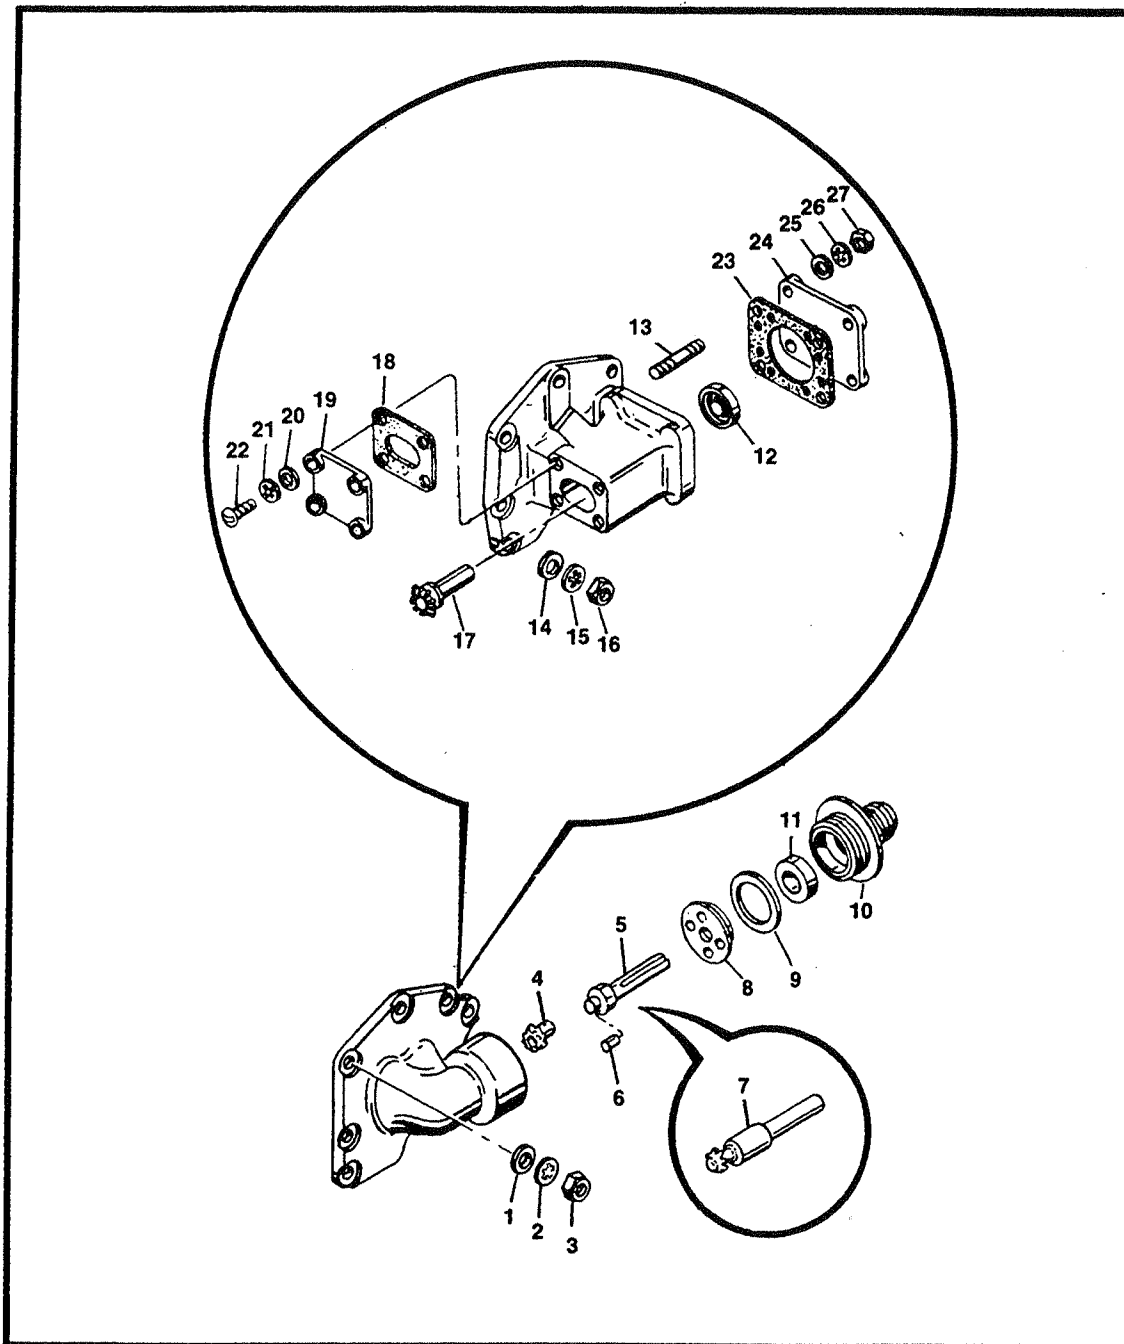

FIGURE 72-10-13B. OIL PUMP COVER AND TACHOMETER DRIVE.
- B. Loosen the oil filter cap (49 or 50) to facilitate later removal. Loosen the tachometer drive housing (10, Figure 72-10-13B) as applicable by turning its hex to the the right.
- C. Remove attaching hardware (2, 3, 4) from the crankcase-to-pump studs. Pulling pump assembly to the rear, remove pump and gasket (1).
- D. Remove oil filter (43 or 50) and gasket (51).
- F. Remove tach drive housing assembly, seal, gasket, thrust washer and tach drive shaft (items 4 thru 11, Figure 72-10-13B) from oil pump tach drive cover (41), or remove attaching hardware (20, 21, 22, 25, 26, 27, Figure 72-10-13B) covers, gaskets, oil seal and tach drive shaft (items 8, 19, 23, 24, 12 and 17 of Figure 72-10-13B) as applicable.
- I. Remove plug (7) from oil pump housing.